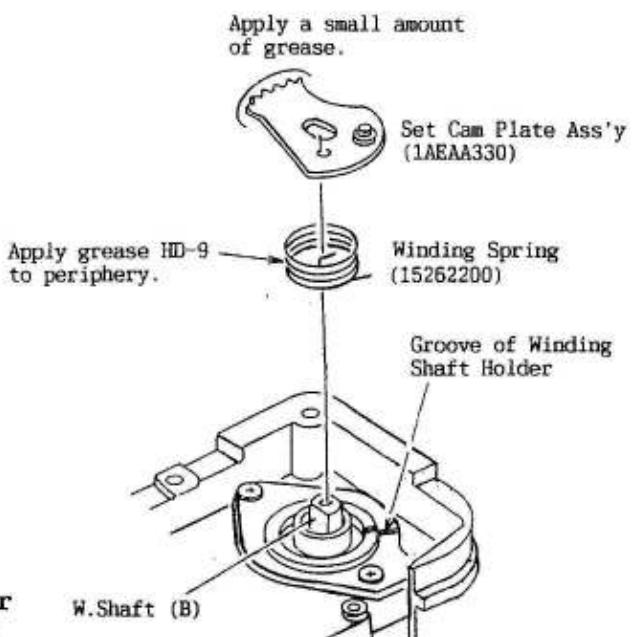

Fig.24
- 12) In the position as shown in Fig.24, fit the Set Cam Plate Ass'y (1AEAA330) gently on the W. Shaft (B).